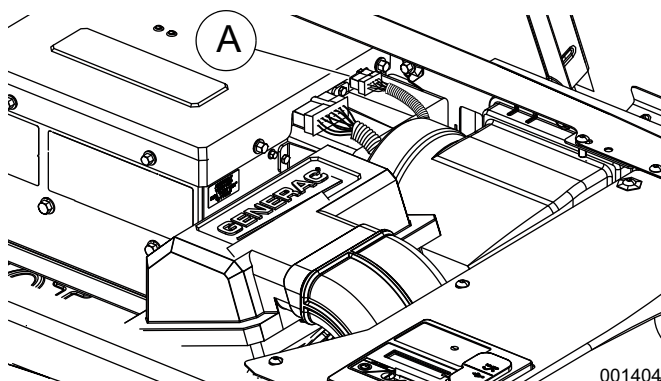

Figure 4-9. Remove AVR Fan Connector
3. See Figure 4-9. Depress external latch to disconnect 4-pin connector (A) from AVR.